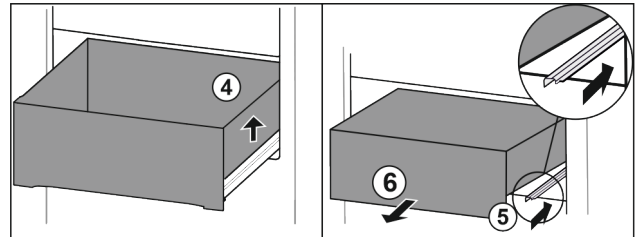

Fig. 15
- ▶ Lift drawer on the right Fig. 15 (4).
- ▶ Slide in right rail Fig. 15 (5).
- ▶ Remove the drawer to the front Fig. 15 (6).